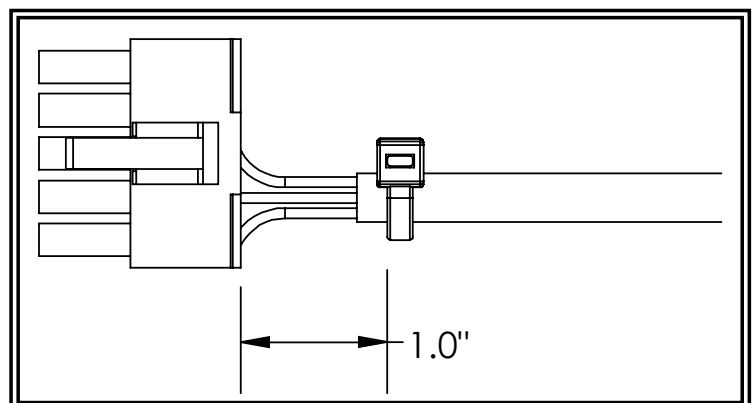

Figure 3
7. Place zip-tie 1.0" from base of the connectors shown in Figure 3. Zip-tie must not slide on cord.